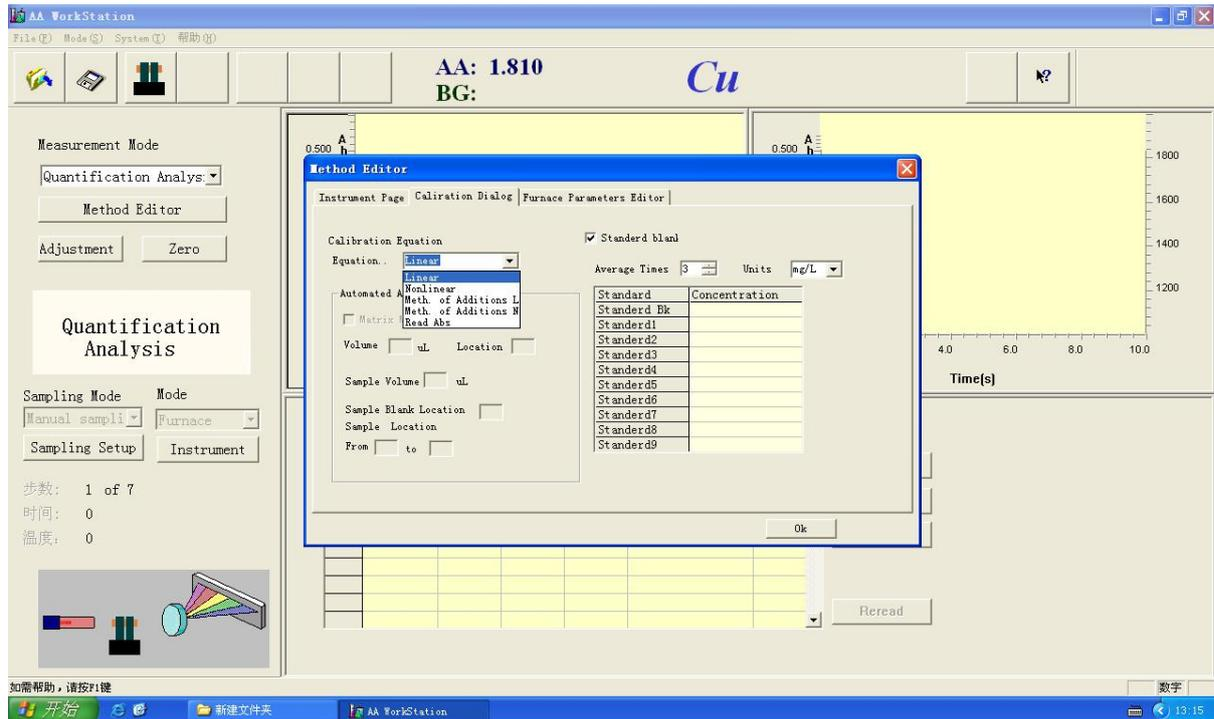

Figure 4-36
1. "Equation". you can select one among the seven methods—"linear", "calibration curve", "linear standard addition method", "curve standard addition method", "the absorbance direct reading", "single-point method", "the standard deviation" (Figure 4-36)